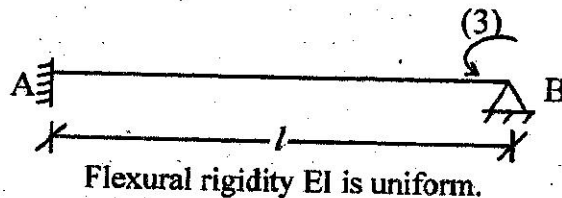

Figure-2
(v) What do you mean by the term "stiffness" used in the stiffness method of analysis? Derive the expression for flexural stiffness at co-ordinate (3) i.e.  $K_{33}$  corresponding to the propped cantilever AB shown in figure-2 below: